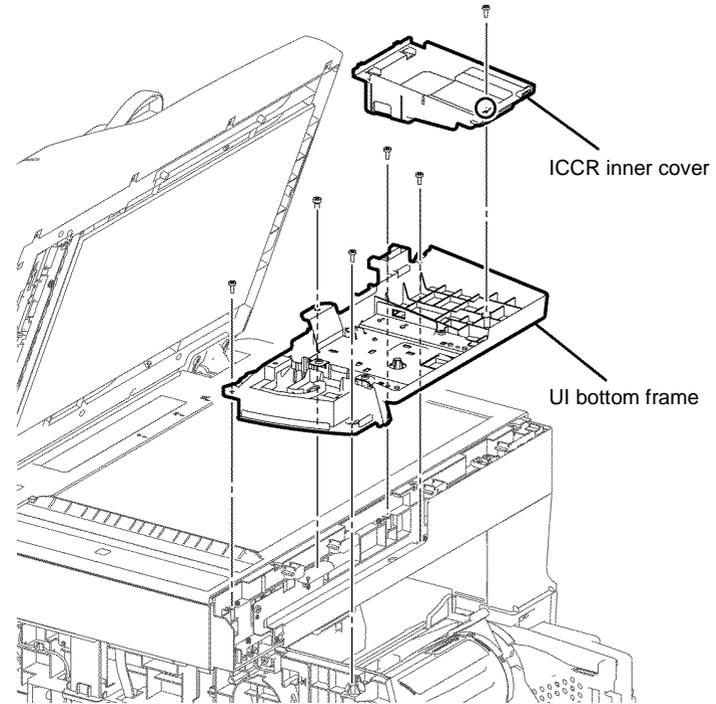

Figure 5 Inner ICCR cover and UI bottom frame removal
16. Remove one screw (silver, tapping, 8mm), then remove the ICCR inner cover, Figure 5.
17. Remove five screws (silver, tapping, 8mm), then remove the UI bottom frame, Figure 5.